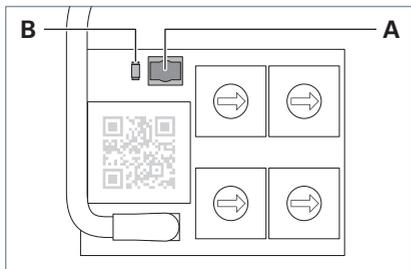

Fig. 9: Key and LED.
- ▶ Briefly press the key **A** on the TALK module (for less than three seconds), see Fig. 9.